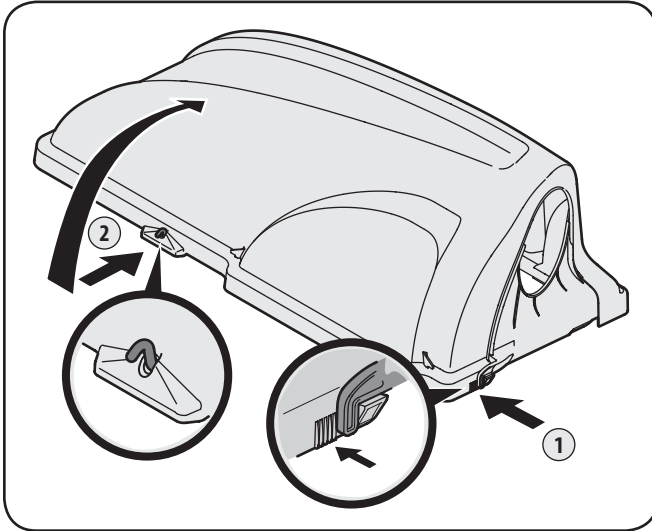

Figure 4-12
- Open the bagger cover by pushing in on the rear, right-side tab with your right hand, as seen in 1 of Figure 4-12, and lifting the cover with your left hand in the center rear of the bagger cover, 2.